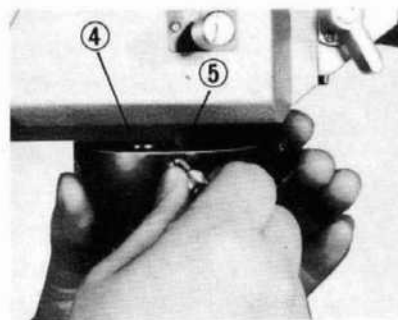

Fig. 11
- 3) With clamping screw ① pulled out, insert the nosepiece into the ring dovetail ④ on the tube, aligning locating pin ③ with the locating groove ⑤ on ring dovetail. Release clamping screw ① slowly and the locating pin will drive home into the locating groove. Tighten clamping screw ① (Fig. 11)
- ☆ Locating groove ⑤ and pin ③ are in alignment if the nosepiece carrier stays in place when slightly moved to the right and left before tightening knob.